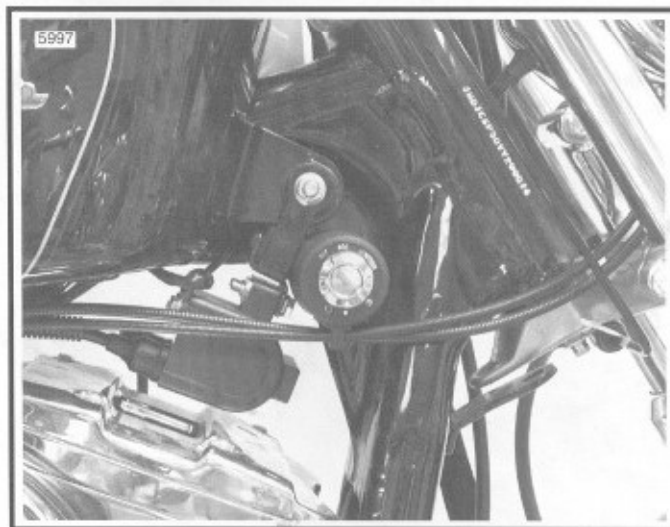

Figure 2-81. Control Cable Routing
5. Install upper housing (2) over right handlebar (10) and secure to lower housing (3) using screws (1). Tighten screws to 18-24 ft-lbs (24-33 Nm) torque.
6. See Figure 2-81. Route control cables forward from throttle control grip, forward of front fork upper bracket, downward between right slider tube and headlamp, rearward along right side of frame steering head, rearward along right side of frame backbone into retaining clip on ignition switch housing, downward to carburetor.